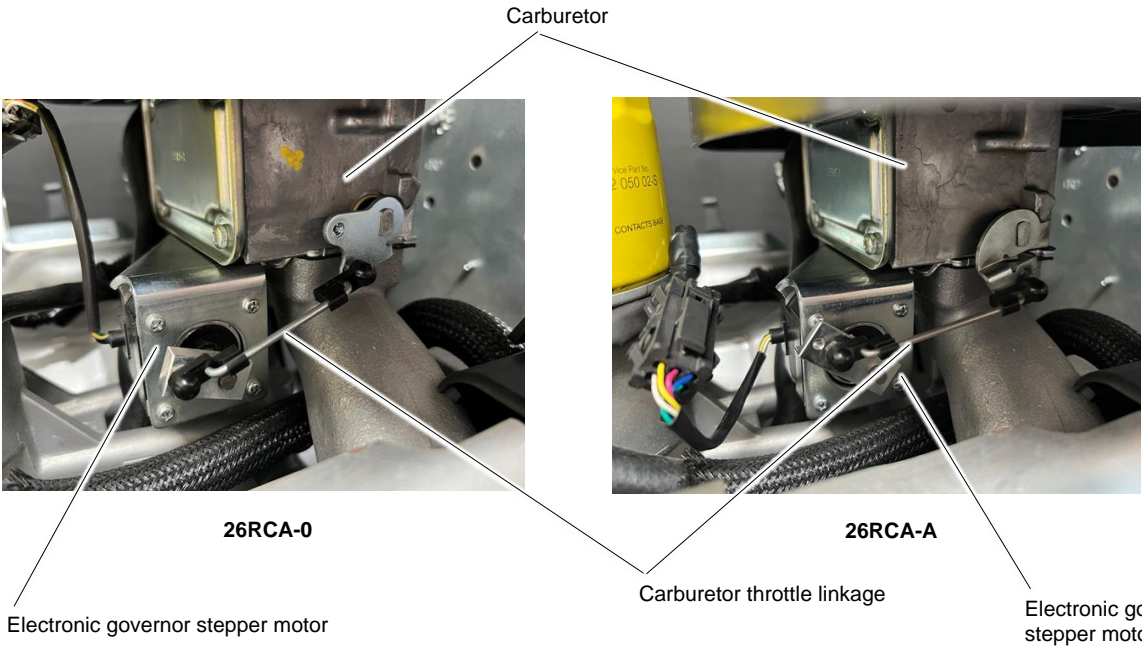

Figure 77 Stepper Motor and Carburetor
3. Hold the throttle linkage steady while the engine is running. See Figure 77. If the engine runs at a steady speed with no hunting or surging when the throttle is held steady, then the hunting/surging problems during operation are probably caused by the governor. Proceed to the Governor System Operation Test section.